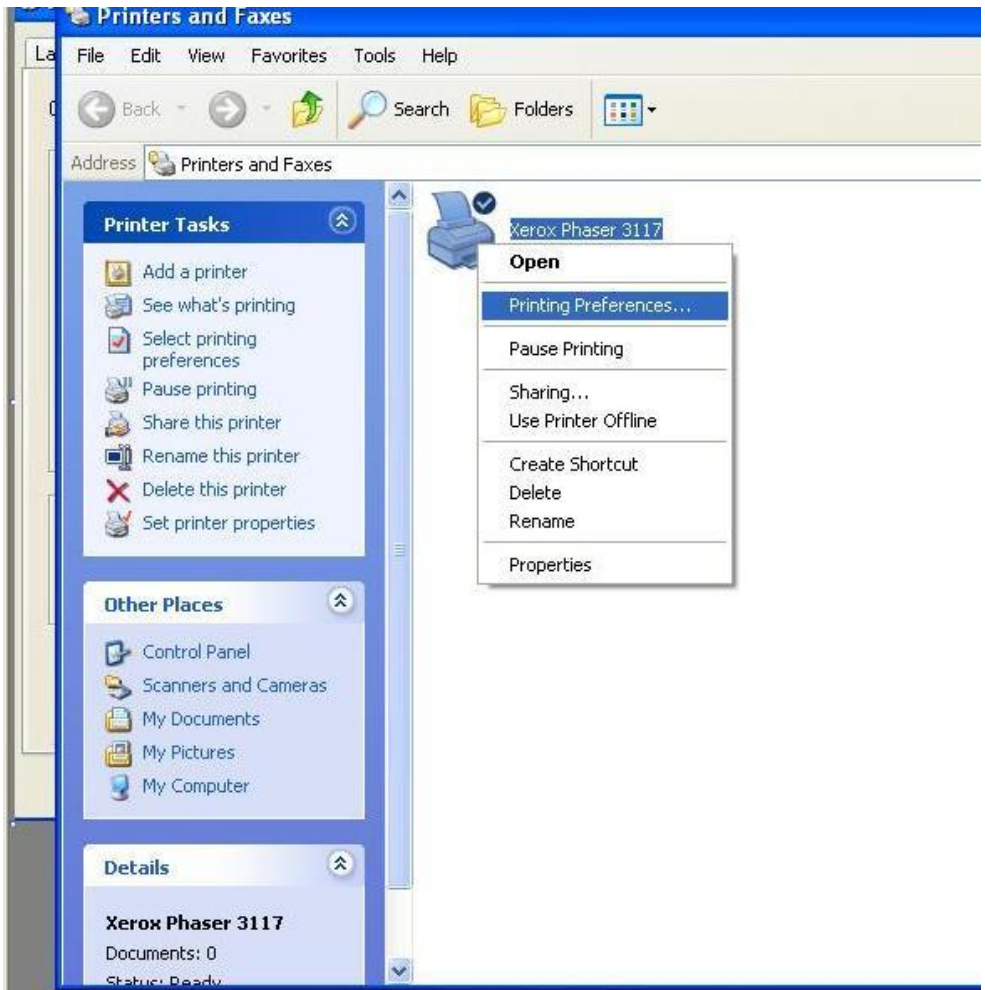

Figure 5-30
② Open the printer attributes, as shown in Figure 5-30 as follows, turn the draught paper to “ds161”.